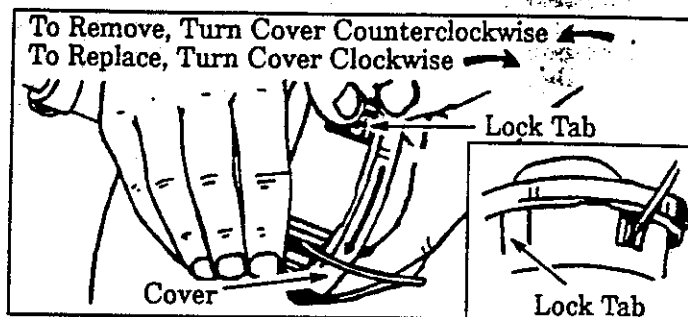

Figure 16
- a. Hold the Trimmer Head as shown in Figure 16. Press the Lock Tab and turn Cover counterclockwise.
- b. Remove the Cover and Spool. Figure 16.
- e. Insert about 6 inches of Line from the inside of the Hub through the Line Exit Hole to the outside to keep the Line from backing into the Head. Figure 16.